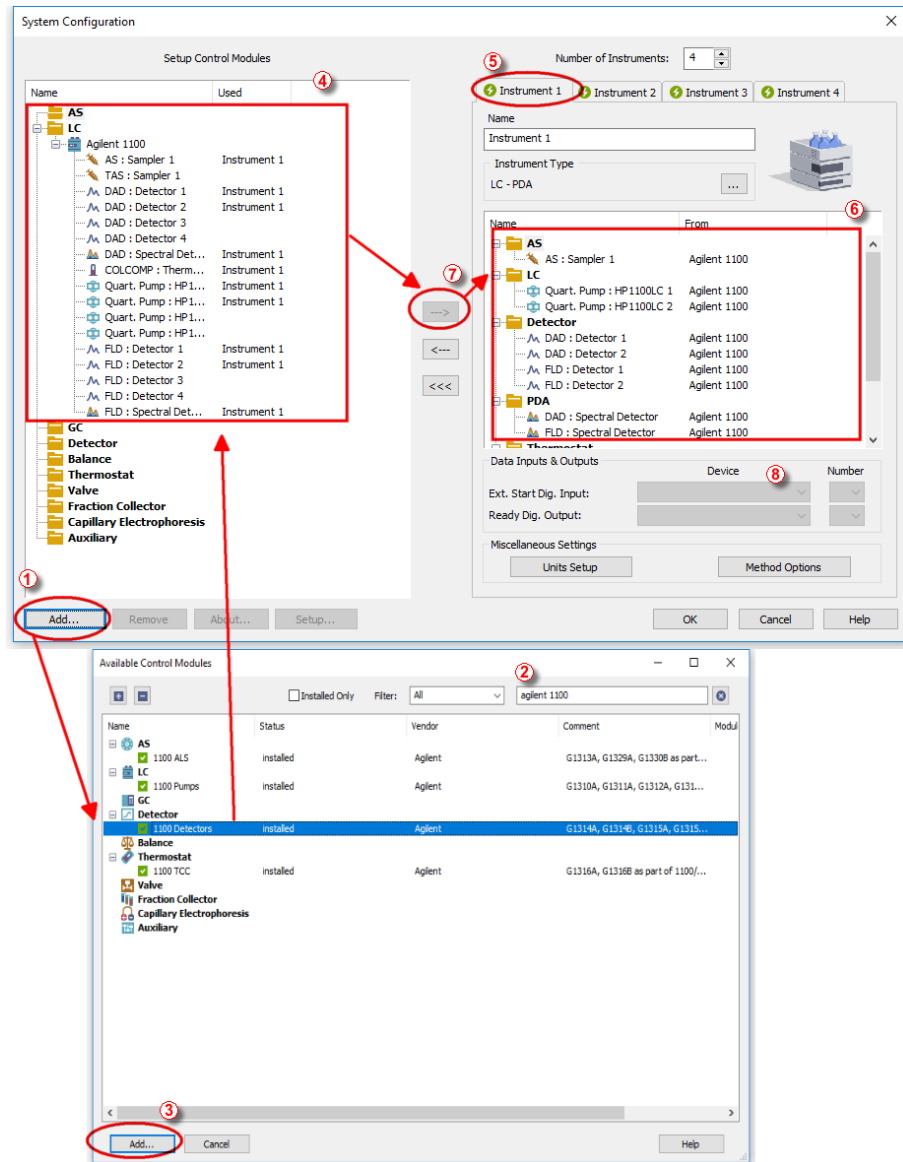

Fig 10: How to add Agilent 1100
- Press the **Add** button ① (see **Fig 10** on pg 15.) to invoke the **Available Control Modules** dialog.
- You can specify the searching filter ② to simplify the finding of the driver.
- Select the **1100 Detectors** and press the **Add** ③ button.